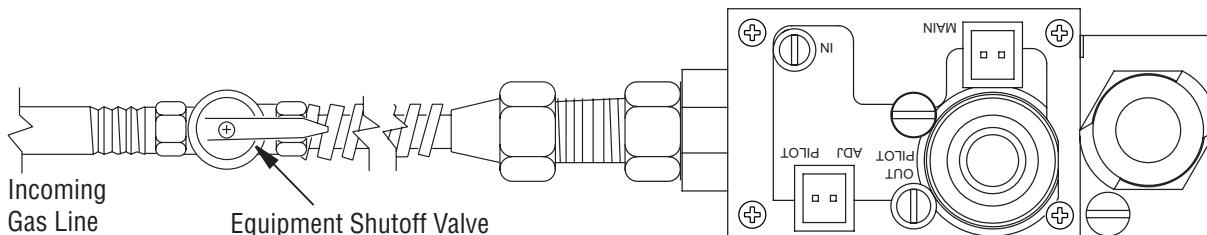

Figure 30 - Turning Equipment Shutoff Valve to the OFF Position
5. Turn equipment shutoff valve clockwise to the OFF position (see **Figure 30**). Do not force.
6. Wait five (5) minutes to clear out any gas. Then smell for gas, including near the floor. If you smell gas, STOP! Follow "B" in the safety information. If you don't smell gas, go to the next step.